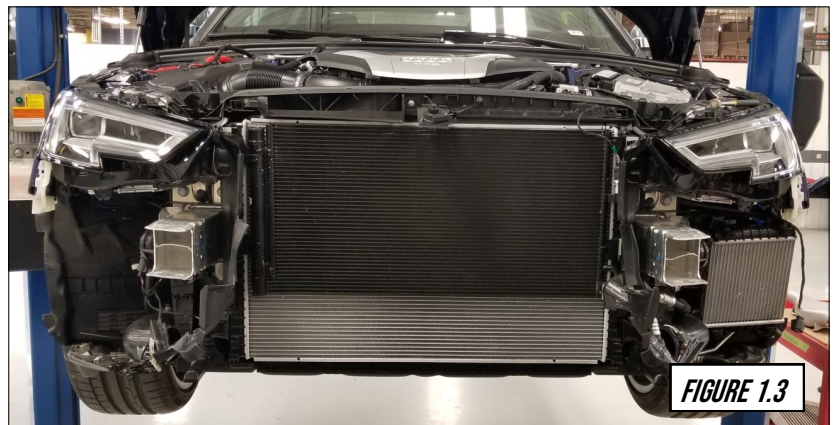

FIGURE 1.3
**Figure 1.3** shows the OEM parts removed with the vehicle ready for installation of the AWE intercooler.